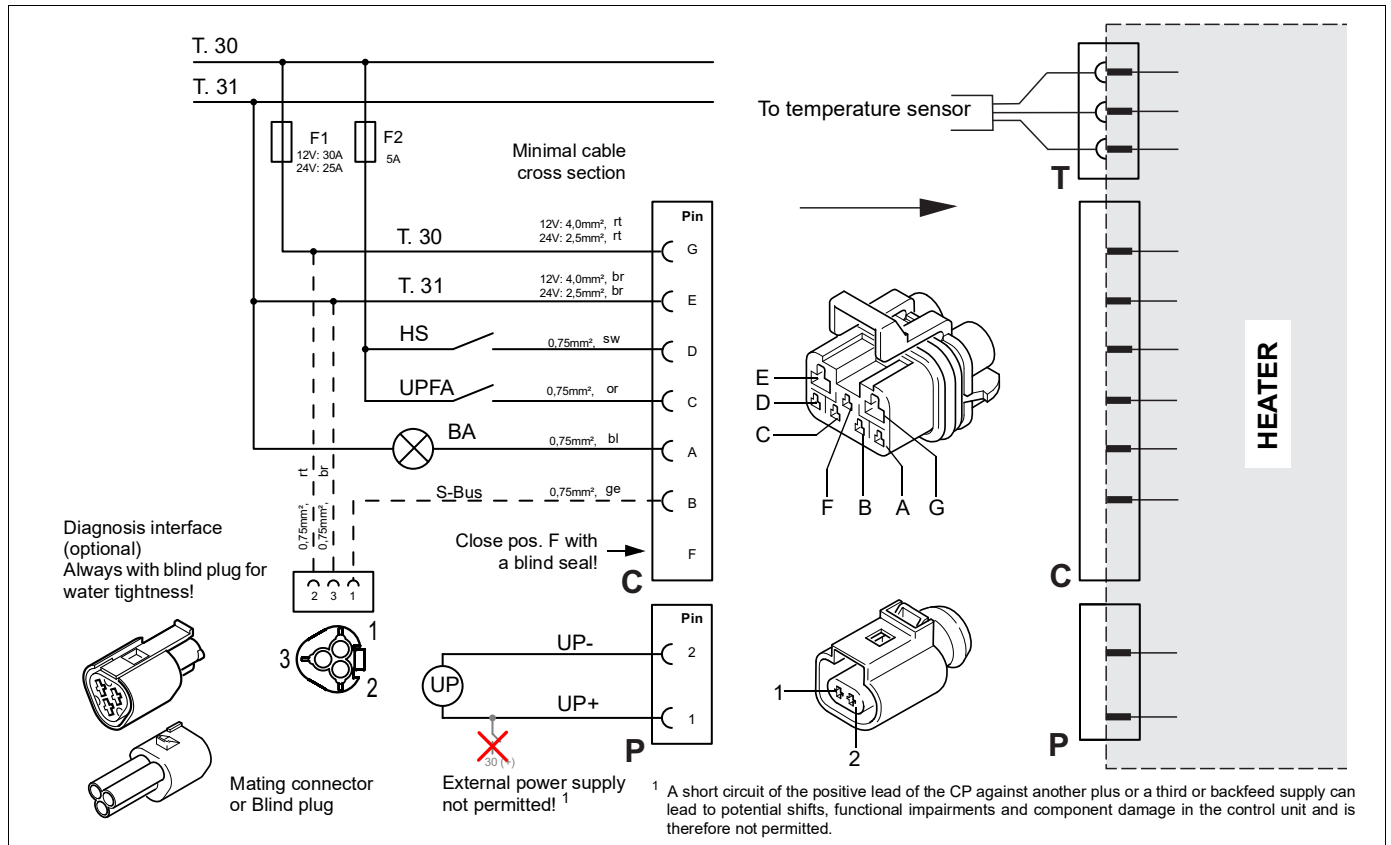

Fig. 9: Hook-up diagram for the heater Thermo E+ with switch, legend see page 19
The hook-up of the heater is to be performed acc. to the hook-up diagram shown in Figure 9. The interfaces are located outboard on the control unit.
- Circulating pump connection (see Figure 9)
For vehicle cable lengths up to 7.5 m, at least the prescribed cable cross-sections in Fig. 9 shall be used. For vehicle lengths of 7.5 m to 15 m, the cable cross-sections in the vehicle must be designed larger. At least the cable cross-sections given in the table must be used. Please note that the cable cross-section at the heater must not exceed 1 mm². In the case of larger cable lengths, a cross-section reduction must be carried out before the heater. The generally valid electrotechnical rules apply.
To connect the diagnosis, an additional adapter harness (11123550_) can be purchased. Alternatively, a connection can be realized by the customer as shown in Figure 9.
10.6. Hook-up diagram (see fig. 9)
To connect the Diagnosis Thermo Test or the blind plug (see Fig. 9):